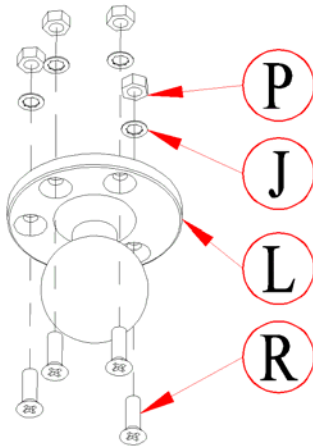

Figure 7.
Step 5: Mounting in to Local Platform: Place Screw (R) through RAM Circular Mount (L), Local Platform, and Washer (J). Affix with Nut (P). Four Places. Torque to 26 in-lbs. See Figure 7